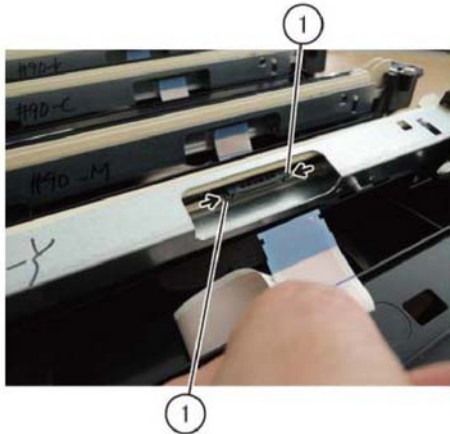

Figure 14 FFC cable removal
24. Push the buttons (1) simultaneously towards the direction of the arrow and remove the FFC cable, Figure 14.